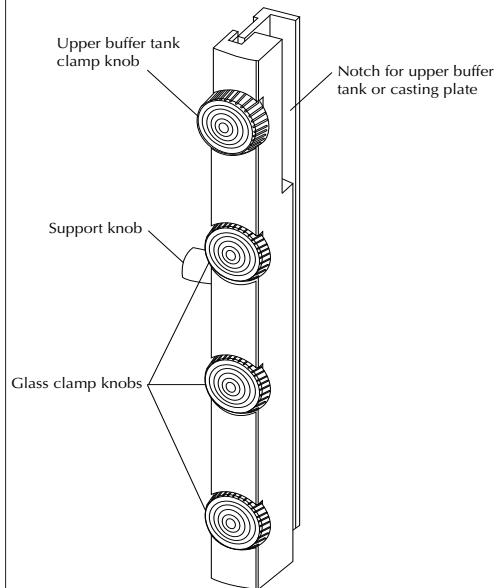

Figure 5-6. Note orientation of rail assemblies (left rail shown).
4. Tighten the glass clamp knobs (Figure 5-6) on each rail. **Tighten only until finger tight** (just past the point of resistance). Over tightening can break or distort the glass plates. Over tightening is also one of the primary causes of “smiles” on gel images because distorted plates cause uneven band migration across the gel.